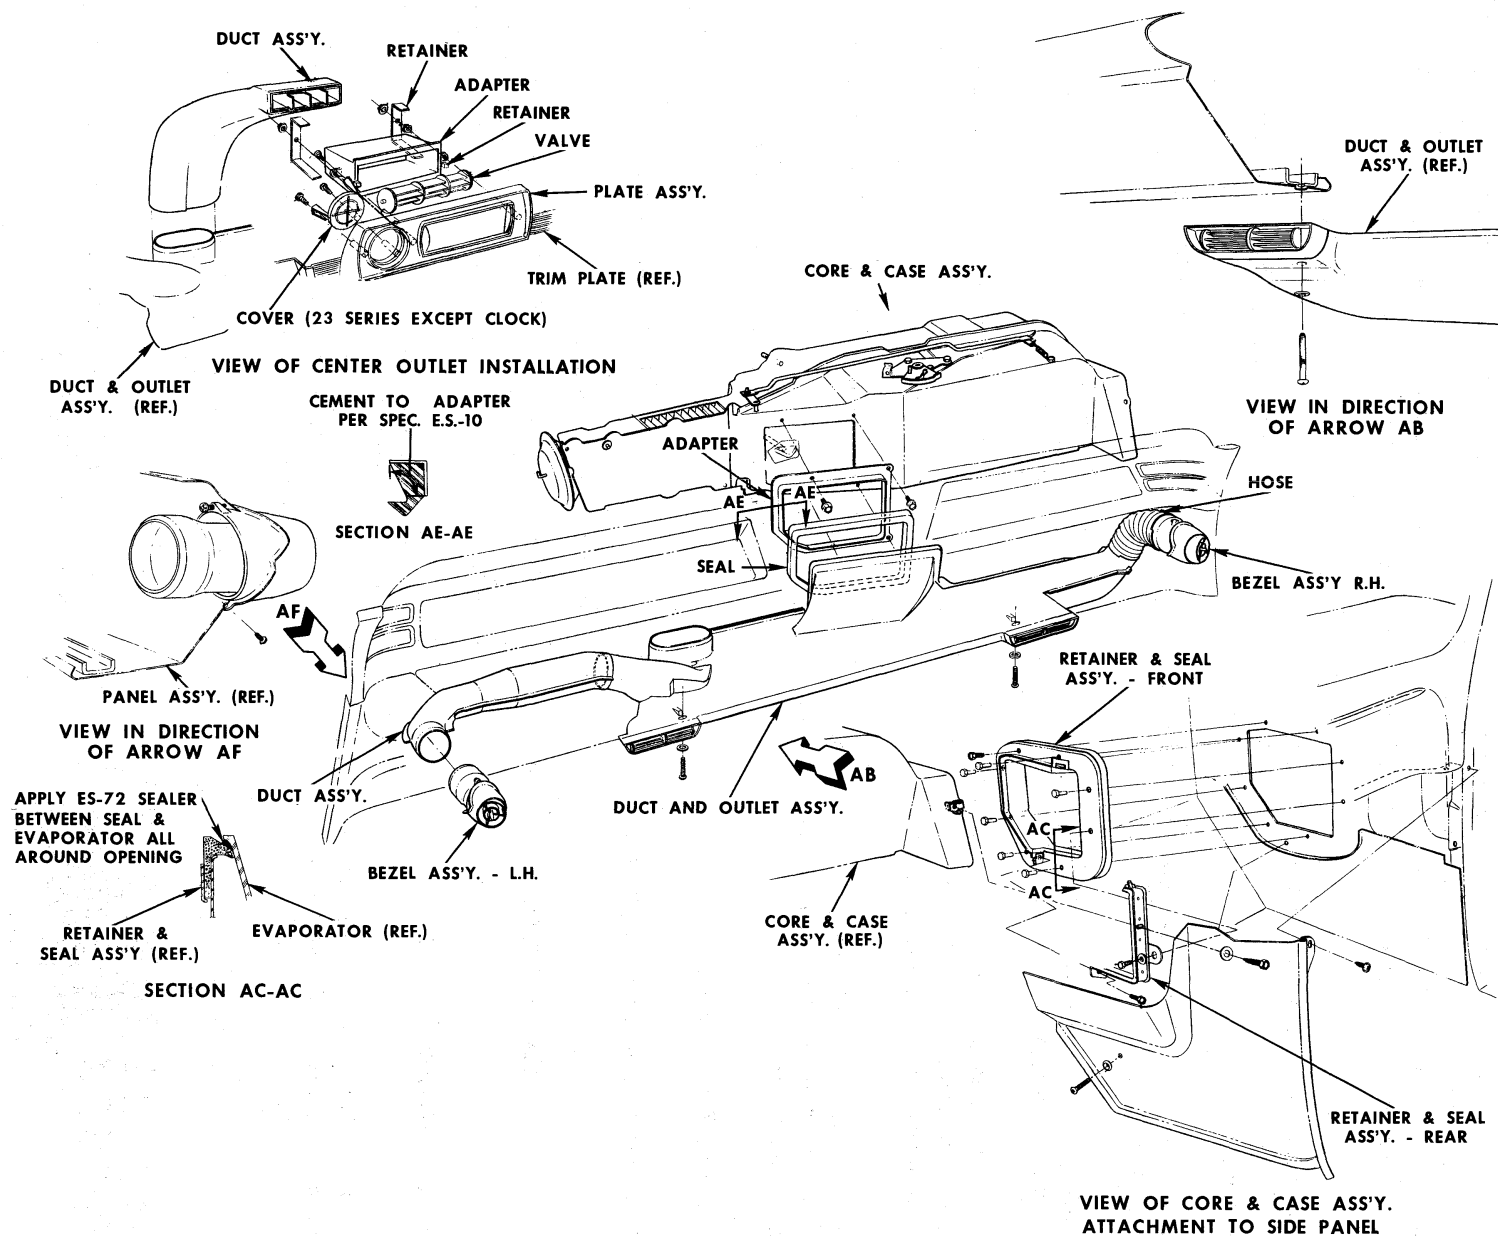

Fig. 4-6 Air System - Body Interior
1. Remove lower instrument panel air conditioning duct and outlet assembly by removing two attaching screws (Fig. 4-6). On console models it will be necessary to remove console back panel.
5. Remove two screws from heater core and case to evaporator housing retainer (Fig. 4-6).
2. Remove instrument panel air conditioning lower duct panel by removing two attaching screws (Fig. 4-6). On console models it will be necessary to remove console back panel.